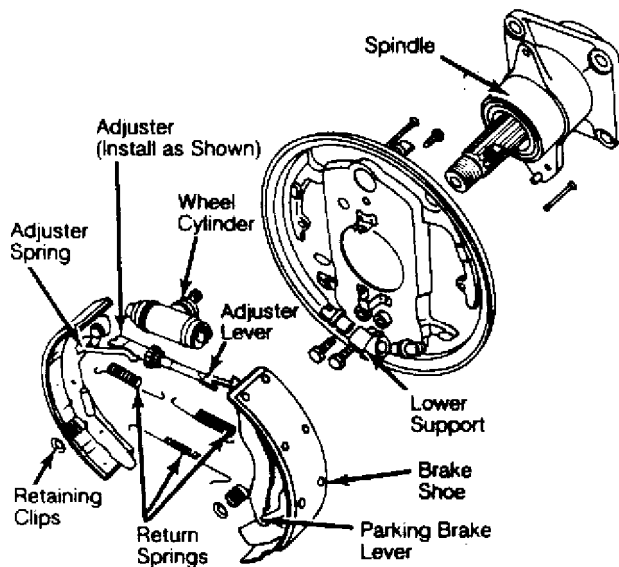

Fig. 7: Identifying Rear Brake Components (Vanagon)
1) Remove brake drum. See REAR BRAKE DRUM under REMOVAL & INSTALLATION. After removing drum, remove retainer clips, hold-down springs and anchor pins. Disconnect parking brake cable from lever on brake shoe. Disconnect lower return and adjuster springs. Pull brake shoes out of lower support. See Fig. 7.